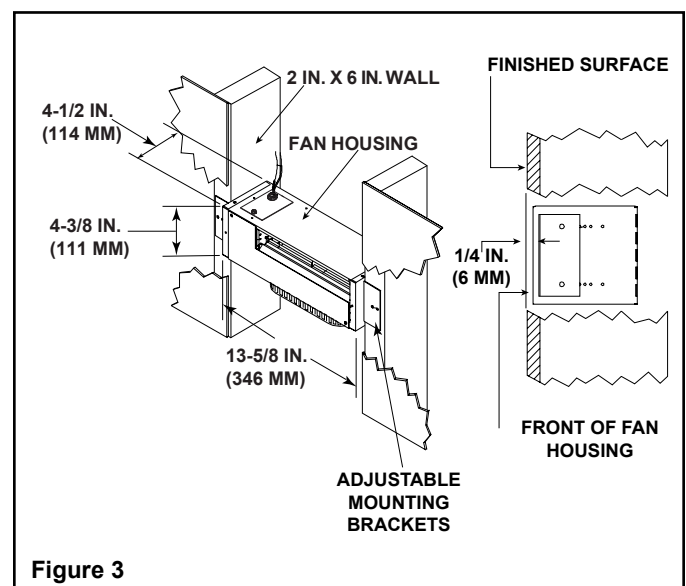
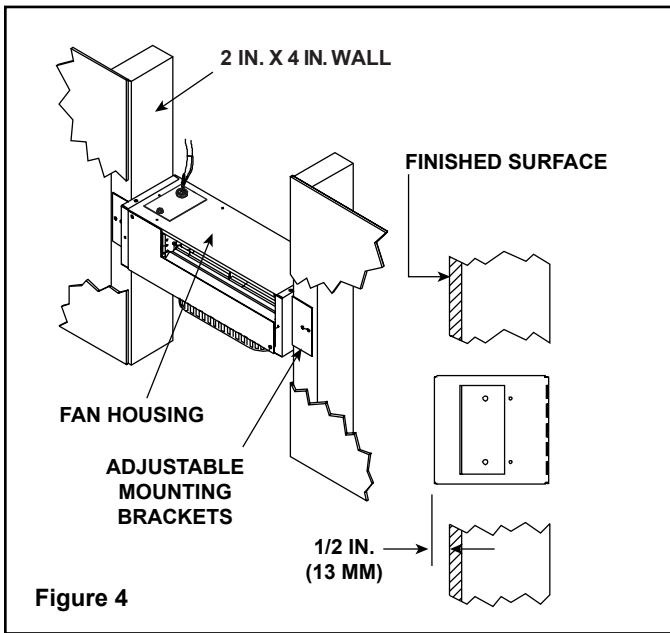

Figure 3
Figure 4
4. Mount and secure the fan housing assembly to framing members so the front surface is 1/4 in. (6 mm) below the finished wall or floor surface. Use the adjustable mounting brackets and screws provided in the kit. See Figure 3 and Figure 4.
**Note:** If the fan housing is installed in a 2 x 4 wall, the front of the housing will protrude approximately 1/2 in. (13 mm) out of the wall. See Figure 4.